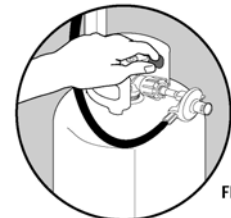

FIG. 7
3. Turn on the propane gas supply valve at the tank, 1 to 2 turns ( see Fig.7 ).